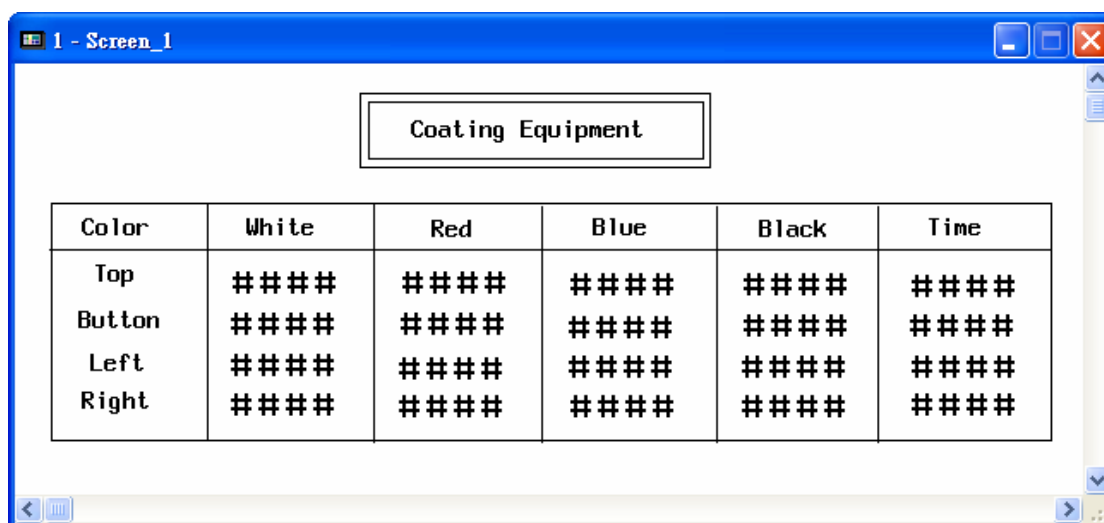

Figure 187. The Screen of Coating Equipment
- Then, a user can edit its application and save as *.V6F. See Figure 187. In the example, [Numeric Entry] object is used to display the coating equipment data on HMI.